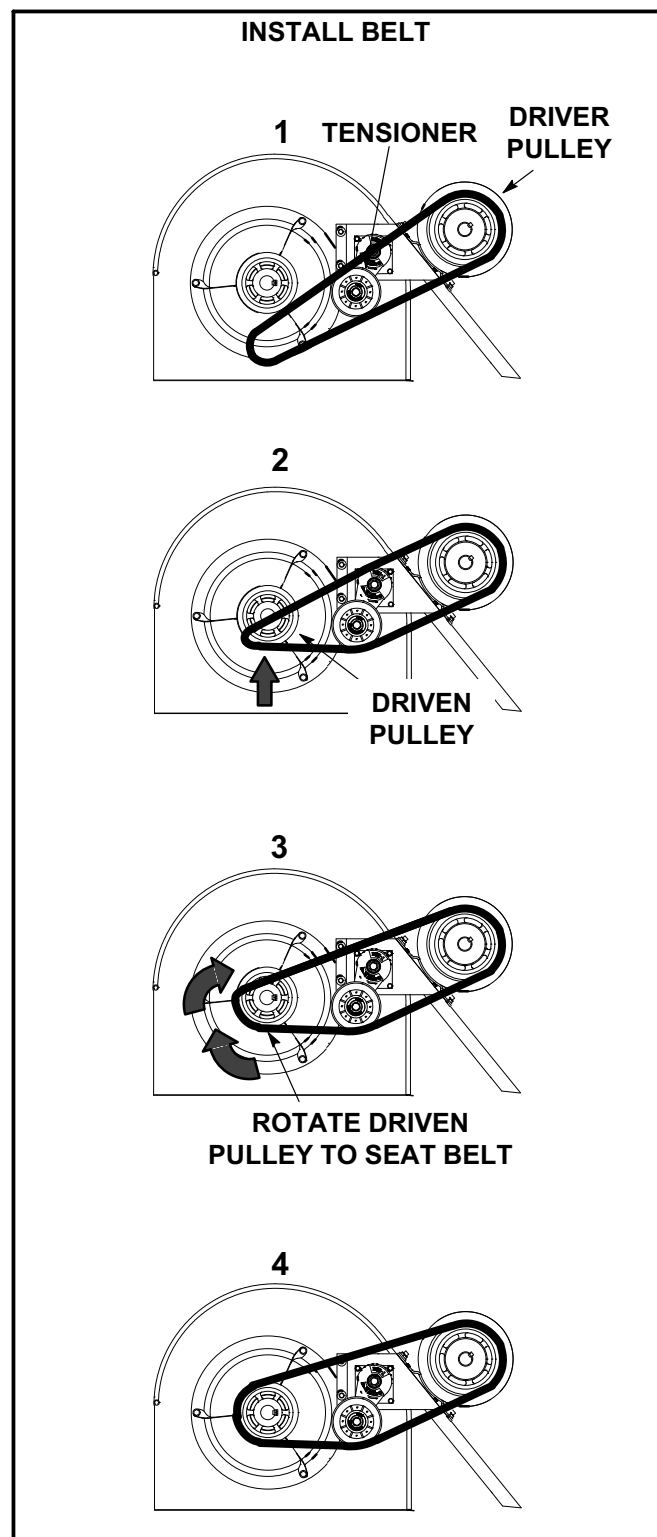

FIGURE 14
- 6- Replace blower belt. See figure 14.